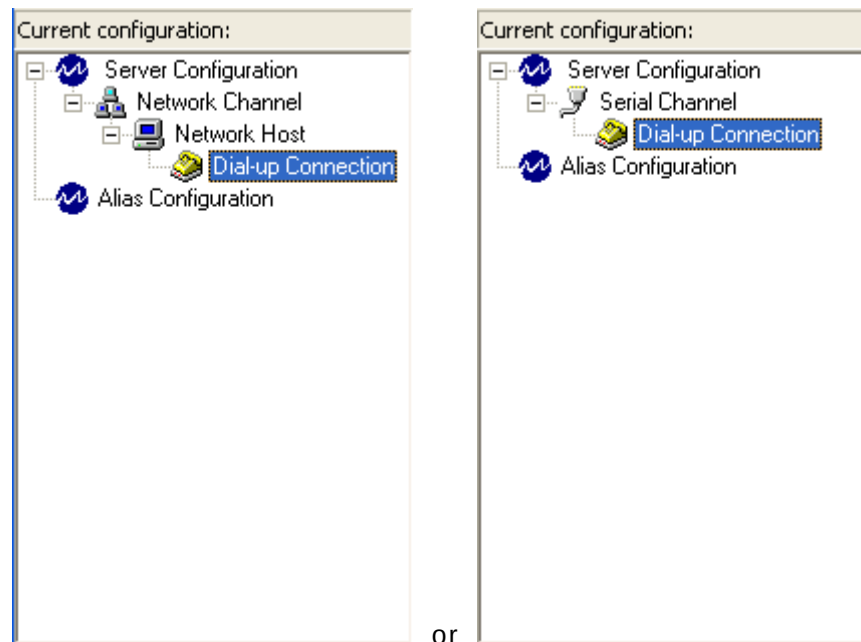

Figure 38 - New Dial-Up Connection Object
8. Click on the **OK** button. The object is created and will appear either as a child of the **Network Host** or **Serial Channel** item as shown in Figure 38 (depending on what the selected parent item was).